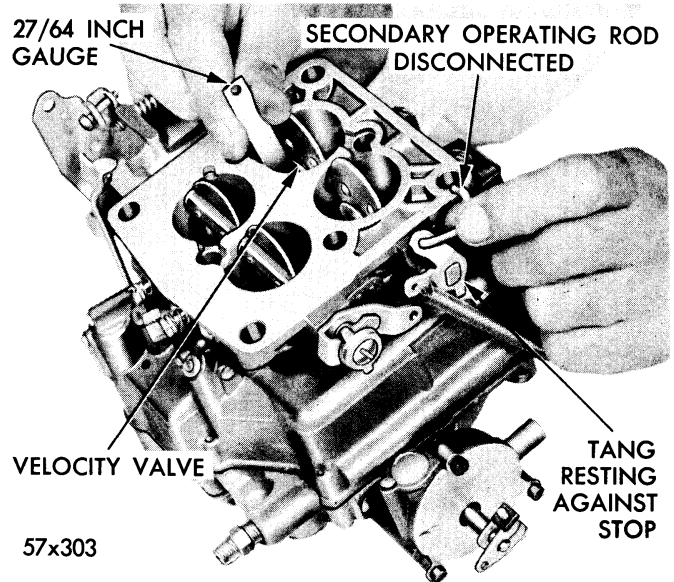

Figure 86—Velocity Valve Adjustment
**Velocity Valve Adjustment**—Disconnect secondary throttle operating rod from the primary throttle lever. Insert gauge in throttle bore between the lower edge of the velocity valve and the bore as shown in Figure 86. The tang of the throttle lever should just touch its stop on the throttle body. To adjust position, bend the tang on the lever to obtain the adjustment required between the lower end of the velocity valve and throttle bore. Refer to Data and Specifications for correct setting. Reconnect secondary throttle operating rod.